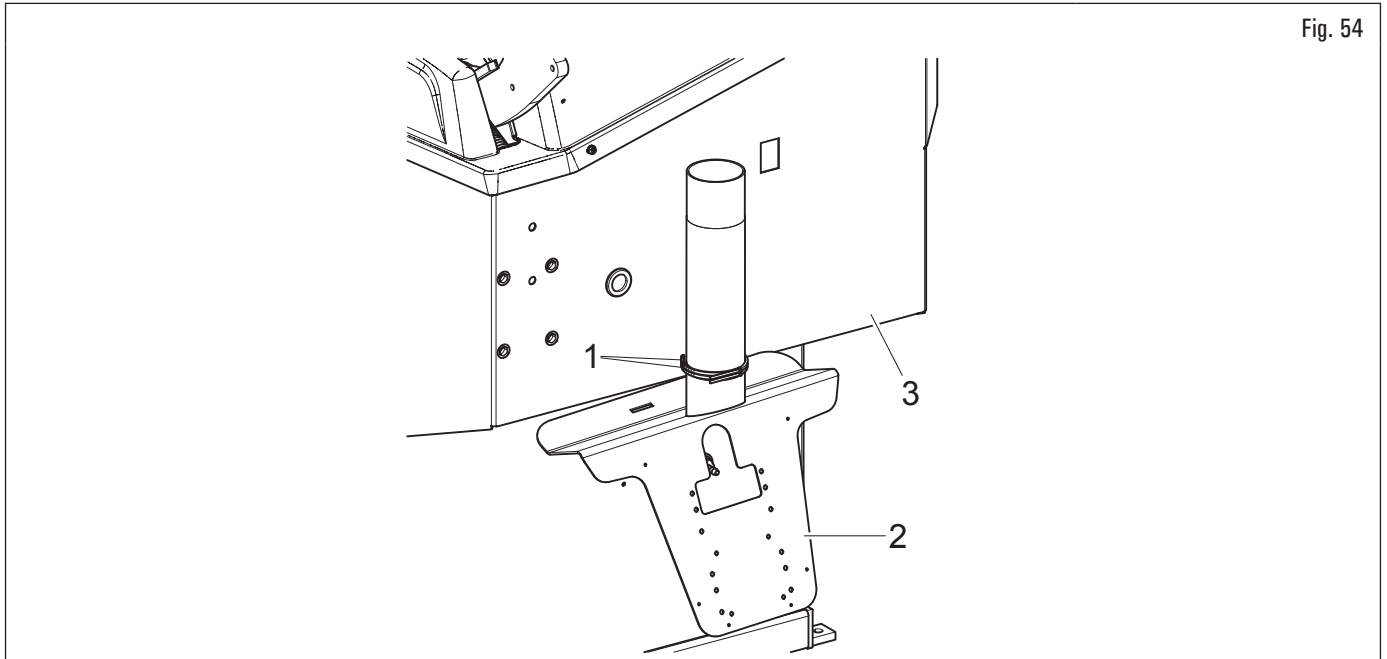

Fig. 54
1. Cut the two clamps (Fig. 54 ref. 1) and release the support (Fig. 54 ref. 2) from the frame (Fig. 54 ref. 3).